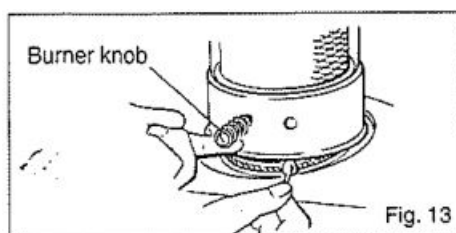

Fig. 13
- A broken igniter wire or dead batteries should be replaced with new ones. When using matches, open the front guard and light as illustrated. (Fig. 13)